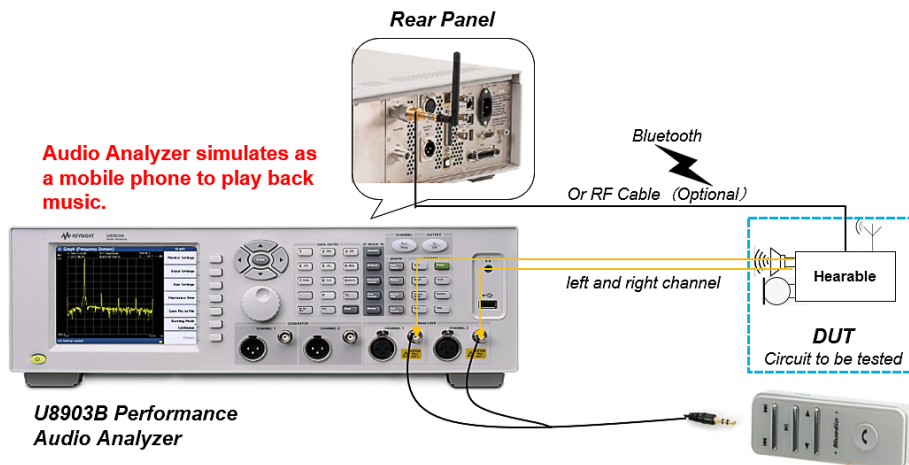

Figure 9. Testing hearable music playback quality
1. Set up the Bluetooth link between the U8903B performance audio analyzer and the hearable, which is the device under test (DUT), as shown in Figure 9.